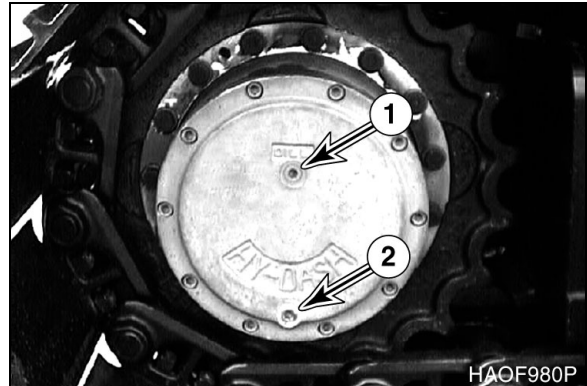

Figure 50
2. Rotate the track until ports (1 and 2, Figure 50) are in their proper positions as shown.
3. Remove oil level plug (1, Figure 50).
6. Clean and install oil level plug (1, Figure 50).